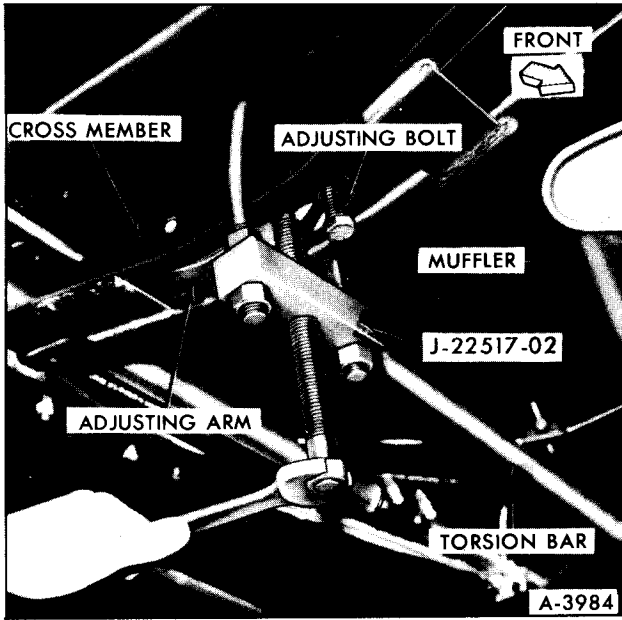

Figure 16—Removing Torsion Bar
2. Before using Tool J-22517-02, remove two nuts and center screw, then place tool over cross-member support. Align pin of tool into hole in cross-member. Install two nuts on tool and center screw: Turn center screw until seated in dimple of torsion bar adjusting arm. (figure 16).